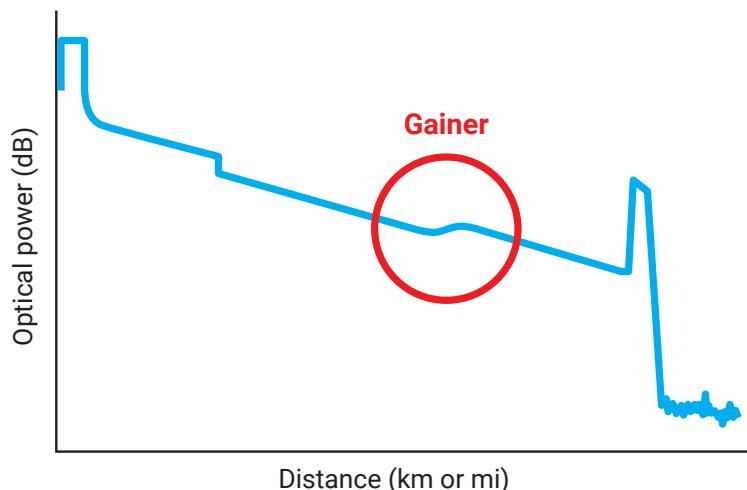
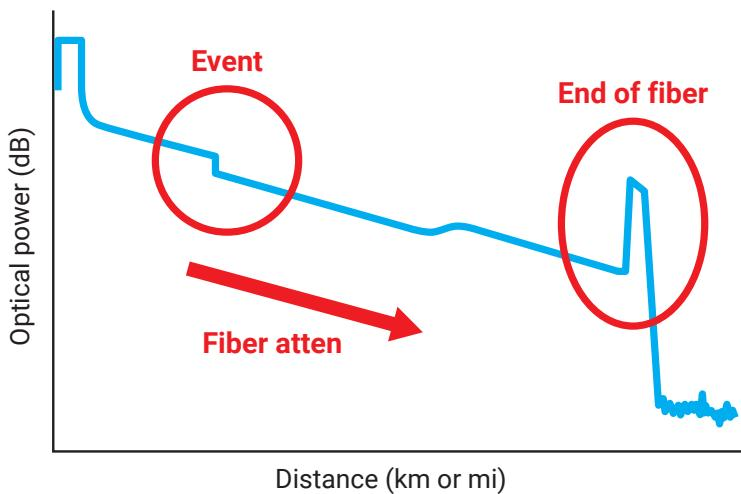

Figure 1. Gainer on simplified OTDR trace
Figure 2. OTDR event examples
Occasionally, while testing a passive optical circuit (with no optical amplifiers present), a fiber field technician may encounter an optical time domain reflectometer (OTDR) acquisition trace including an event with this general appearance (Figure 1):
The first red highlighted event in Figure 2 is a so-called “non-reflective” event that is typical of a fusion splice of two fiber ends, with no spike in the return reflection, and a low insertion loss (IL) of typically 0.1 dB or so. The overall downward slope of the OTDR trace is caused by the physics of fiber attenuation (absorption and scattering) and is typically about 0.2 dB per km at 1550 nm for a singlemode fiber cable. If the end of the cable is an optical open (an air interface to a ferrule dust cap for example), the different indices of refraction of the two materials (silica glass fiber core to air interface) cause a relatively large amount of backscatter, as shown in Figure 2. So how do we account for the physics of the gainer (which is a “negative loss”) shown in Figure 1? It shows an event with an increase in optical power (like an optical amplifier) with little or no back reflection.